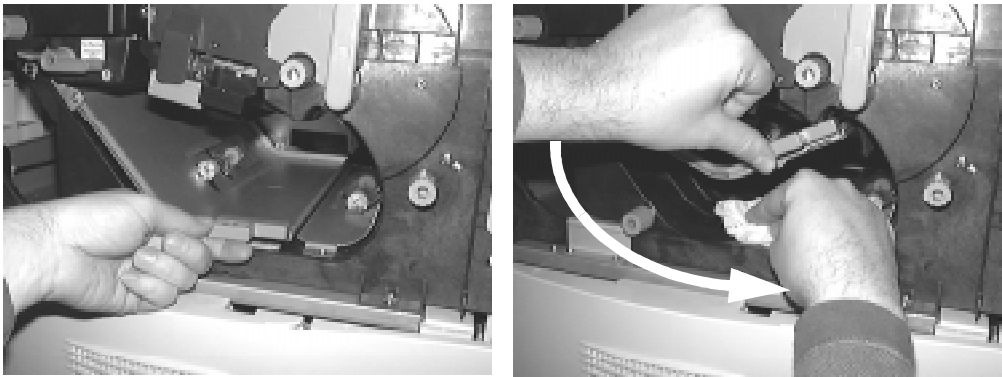

Figure 5-5 Cleaning Duplex Area
1. Raise lever 6 and use the supplied cleaning cloths to wipe up any toner or dust off the duplex area in this area, wiping from left to right. Wipe all of the accessible area to ensure a thorough cleaning. See Figure 5-5.